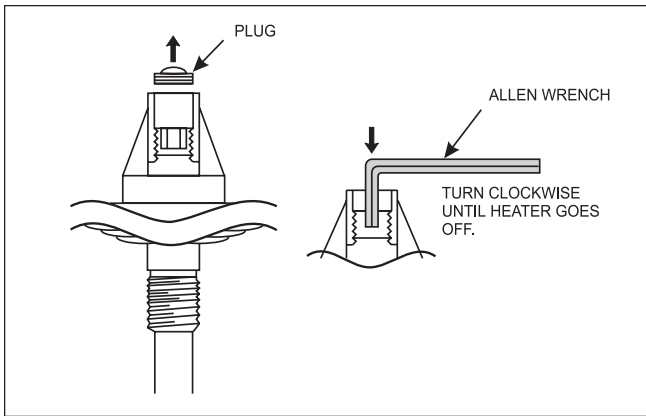

Figure 19. Pressure switch adjustment.
6. Use a 7/32 inch (5.55 mm) Allen wrench to turn the adjustment screw very slowly clockwise until the heater goes off (see Figure 19).